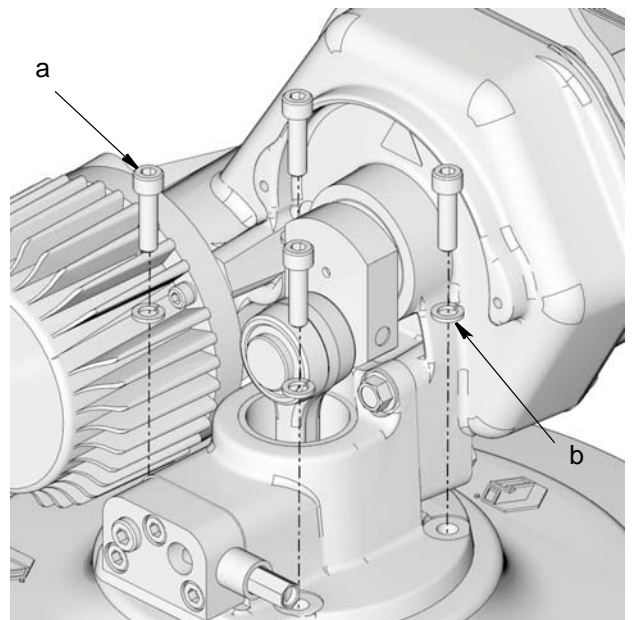

FIG. 20
6. Remove screws (a) and washers (b) holding Dyna-Star Pump to cover and remove pump from cover (FIG. 20). Place pump on a workbench or table top protected with a drop cloth.